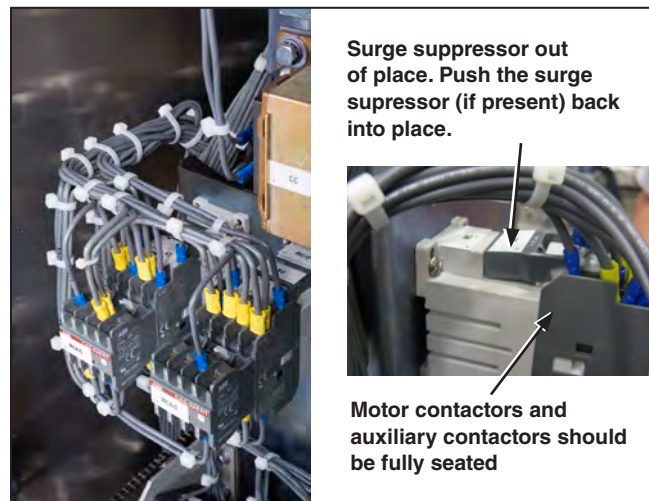

Figure 38. Checking the open and close motor contactors, auxiliary contact blocks, and surge suppressors behind the operator side panel.
- On the open and close motor contactors and surge suppressor all electrical connections are secure and all contactors and surge suppressors are fully seated in their mounts (See Figure 38 on page 30.)